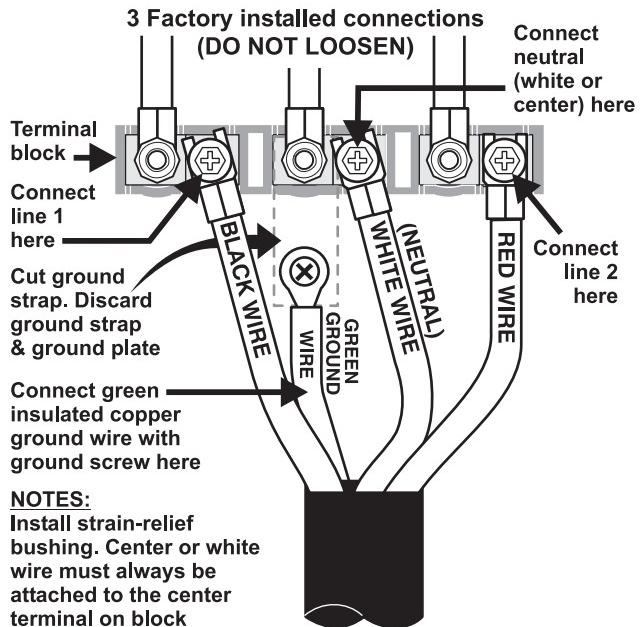

Fig. 33
B Wiring instructions (4-wire connection - See fig. 33)
- Connect the ground wire (Green) lead with the eyelet to the frame of the appliance with the ground screw using the same hole in the frame where the ground screw was originally installed (See Fig. 33).